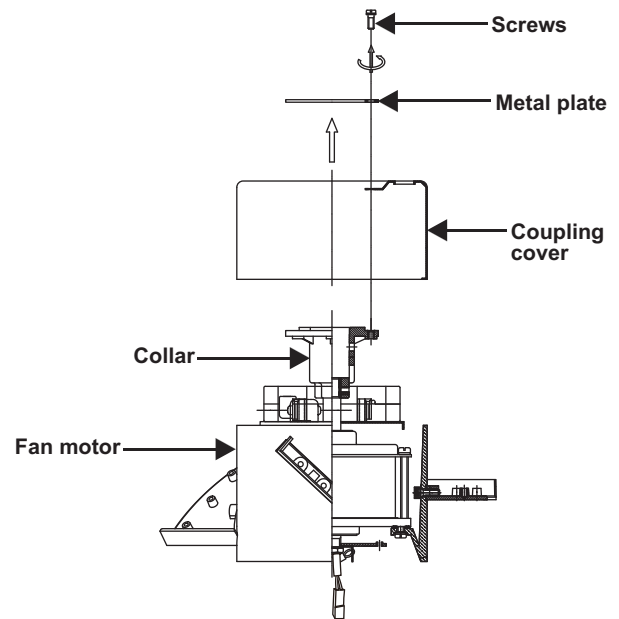

Figure 5
1. Remove the metal plate and coupling cover from the fan motor by removing the two screws from the rim of metal plate. (Fig. 5)